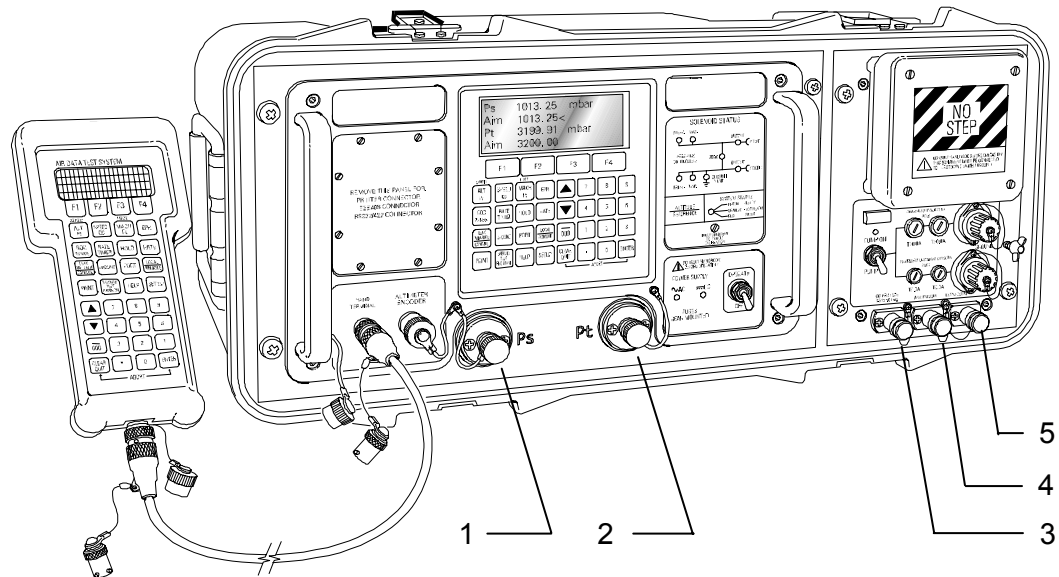

Figure 16 DPS500 Pneumatic Pressure Connections
1. During normal operation make sure that the correct blanking caps (Fig. 16, #3, #4, #5) are snugly fitted to the external connectors.
Note: A leak of the external pressure / vacuum blanking caps (Fig. 16, #3, #4, #5) can affect the performance of the DPS500.
3. Connect the Unit Under Test (UUT) to the front Ps output (Fig. 16, #1) and Pt output (Fig. 16, #2) connectors.
4. For single channel testing of Altimeters or similar, requiring only Ps, connect the UUT to Ps output (Fig. 16, #1) and fit the blanking cap on the Pt. output (Fig. 16, #2).
- For single channel testing of Airspeed Indicators or similar, requiring only Pt, connect the UUT to Pt output (Fig. 16, #2). The Ps output (Fig. 16, #1) must be left open to atmosphere (no blanking cap) to provide a reference pressure.